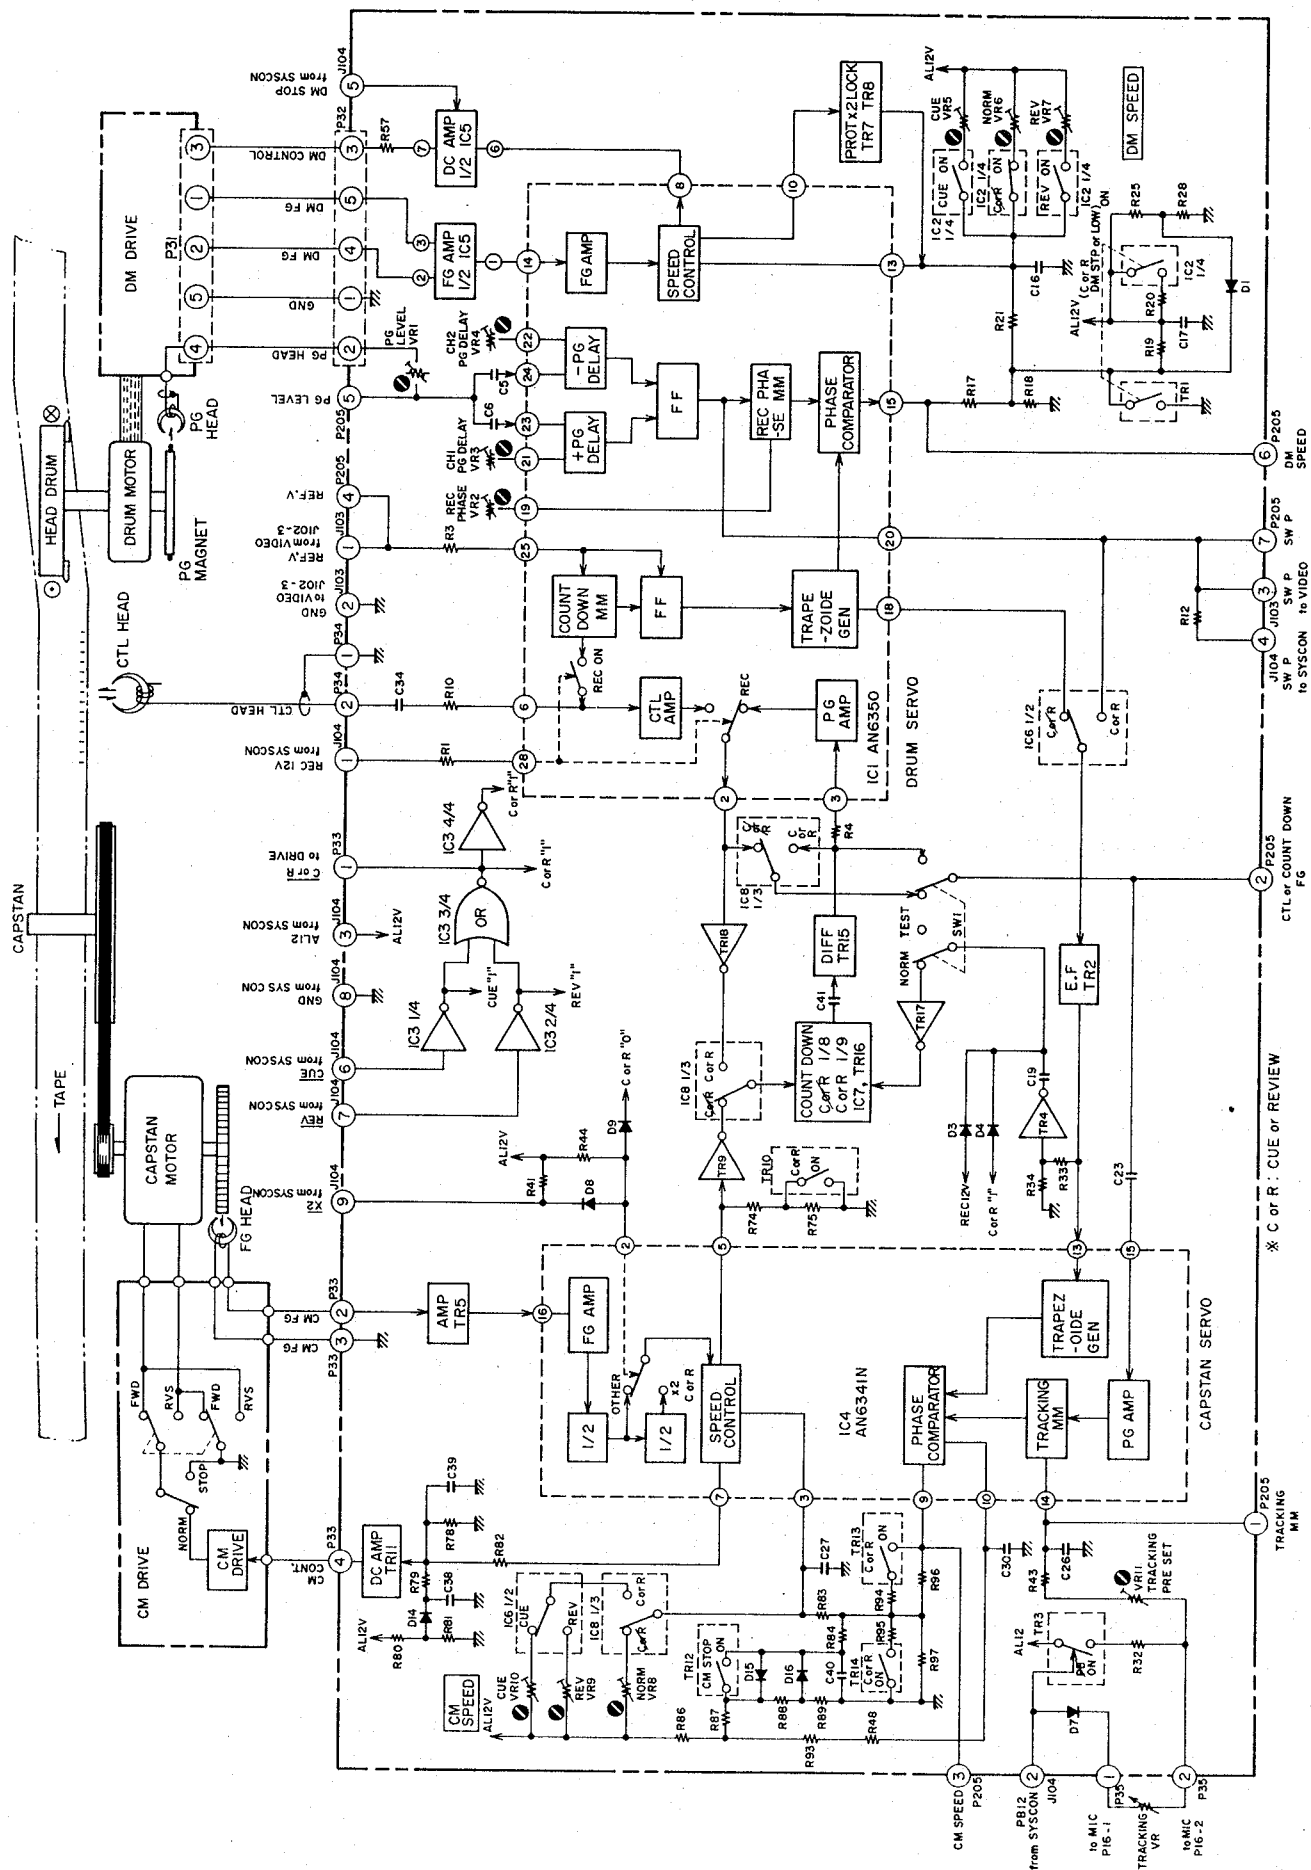
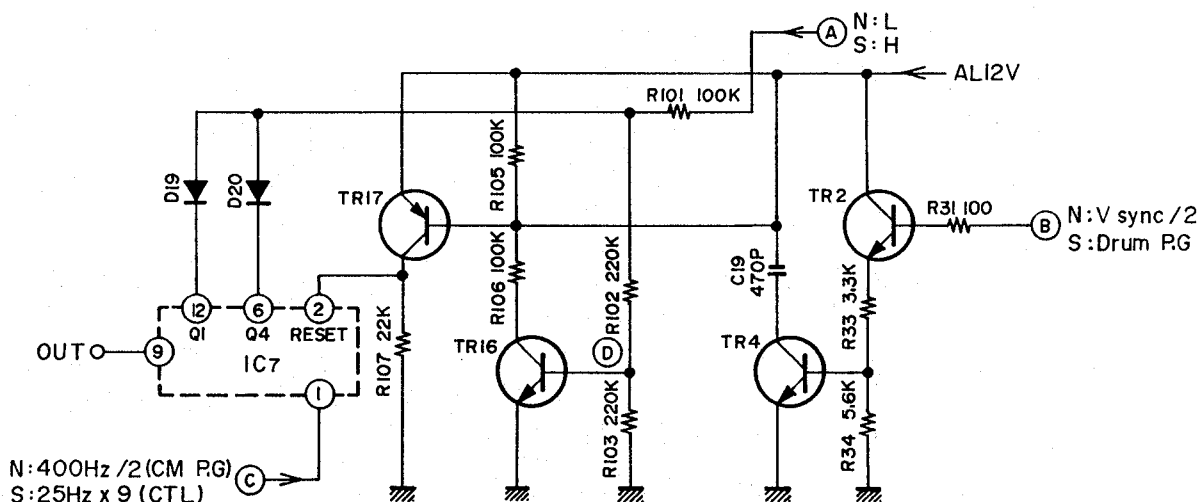

Fig. 15 SERVO BLOCK DIAGRAM
Fig. 16
In the circuit shown in Fig. 16, when NORMAL, ① is L, so D19 and D20 are cut off and TR16 is also cut off, therefore, no reset input from TR16, but when started, 1/2V sync is inputted and TR4 is turned ON by the first pulse after AL12 is added, and immediately when C19 is charged, TR17 is turned ON and the reset pulse is added to IC7 ②.
In SPEED, in Fig. 16, ① becomes 'H', and if there is no reset input when the 9th pulse of (IC7 ①) shown in the lower half of the Fig. 15 is inputted, then, Q1 → 'H', Q2 → 'L', Q3 → 'L', Q4 → 'H'. When both Q1 and Q4 become 'H', the potential at ④ point becomes 'H', TR16 is turned ON, TR17 also ON, and the reset pulse is inputted into IC7 ②. Immediately when the reset pulse is inputted, Q1, Q2, Q3 and Q4 all become 'L'. With the reset point "0", the pulse is again counted. Therefore, the pulse of IC7 ⑨ will be one pulse output against 9 pulse input, i.e. 1/9.